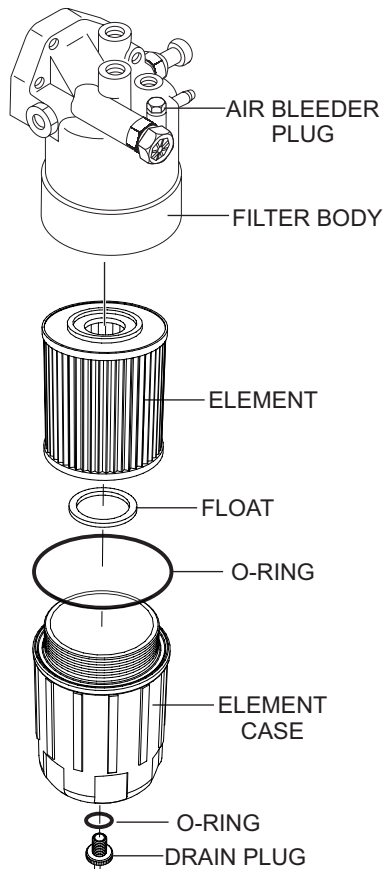

Figure 70. Fuel Filter Replacement
1. Use a filter wrench to remove the element case (Figure 70) from the fuel filter body.